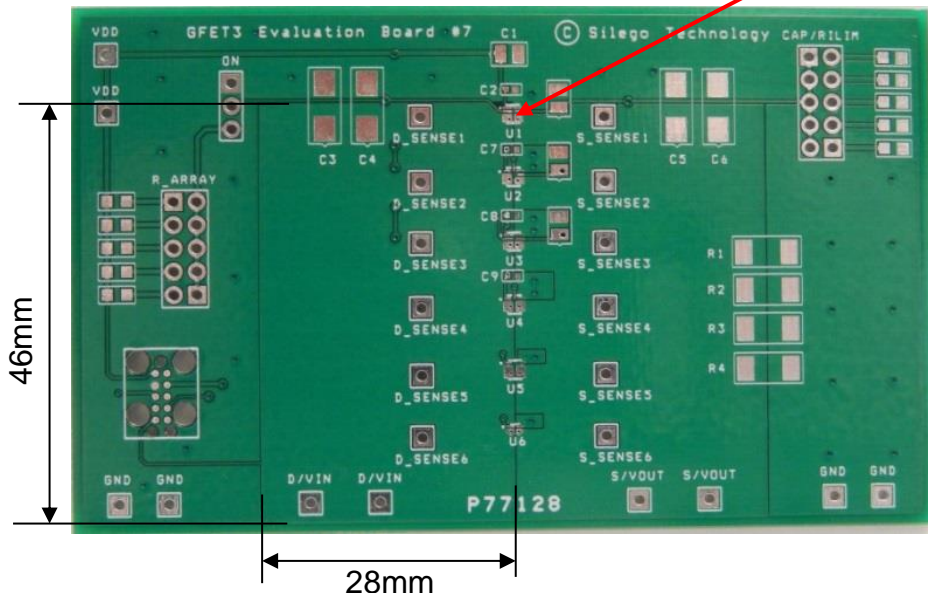

Figure 3. SLG59M1658V Evaluation Test Board
2.3. The D/VIN and S/VOUT pins carry significant current. Please note how the D/VIN and S/VOUT pads are placed directly on the power planes in Figure 3, which minimizes the Rds(ON) associated with long, narrow traces. The D/VIN, S/VOUT and GND pins dissipate most of the heat generated during high-load current condition. The layout shown in Figure 3 is illustrating a proper solution for heat to transfer as efficiently as possible out of the device.